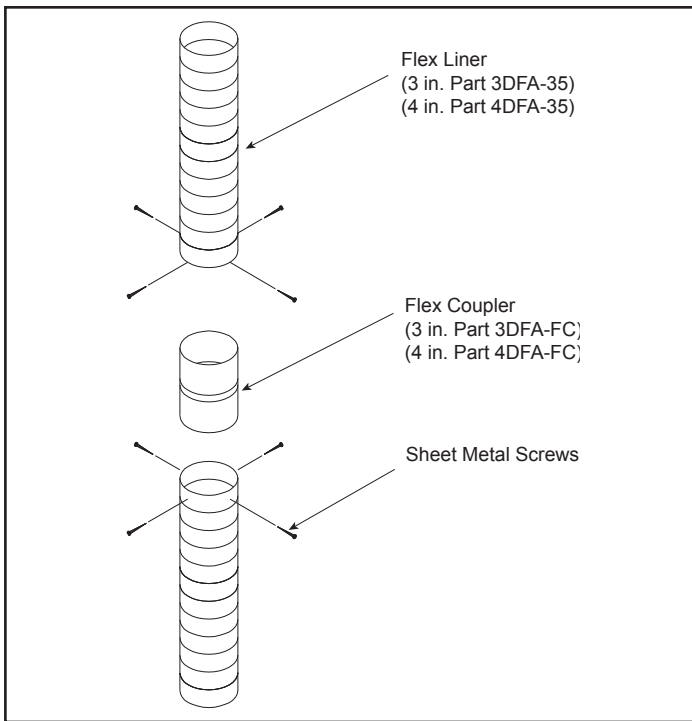

Figure 4.20
7. If additional lengths of flex liner are needed to span the chimney height, use a flex coupler to connect the pieces of flex liner together. Connect the flex to the coupler by using four sheet metal screws for each side. See Figure 4.20.